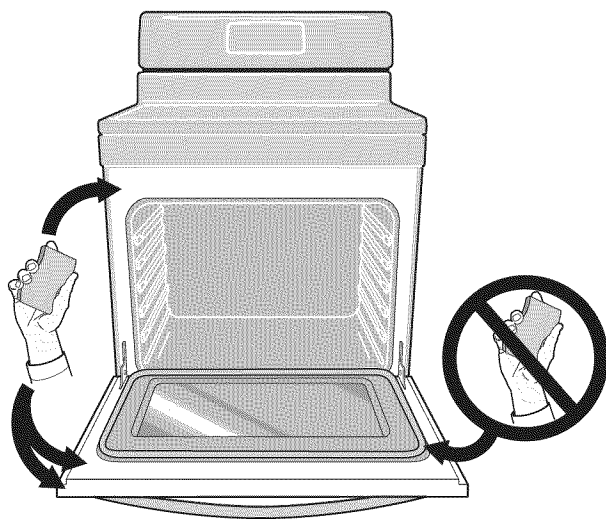

Figure 42: Areas to clean and to avoid
- Do not use oven cleaners or oven protective coatings in or around any part of the oven interior. Clean any soil from the oven frame, the door liner outside the oven door gasket, and the small area at the front center of the oven bottom (See Figure 42). These areas heat sufficiently to burn soil on. Clean using soap and water prior to starting Self Clean.